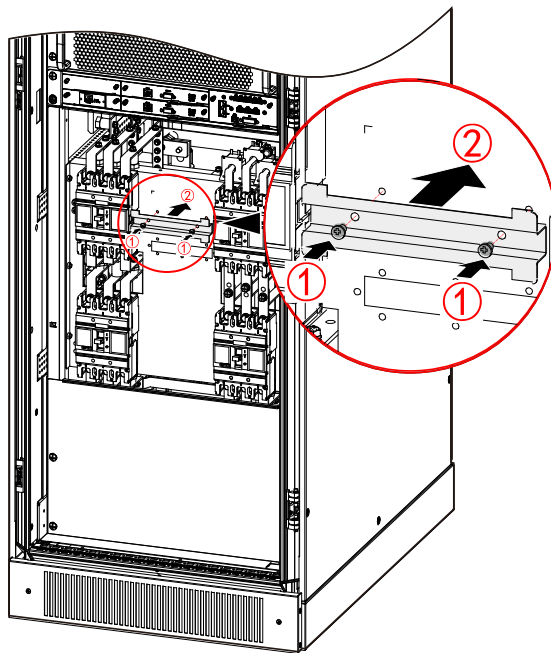

Figure3-19 Install the fixed plate for the surge protection device
Step 3 Install the fixed plate for the surge protection device, as shown in Figure3-19.